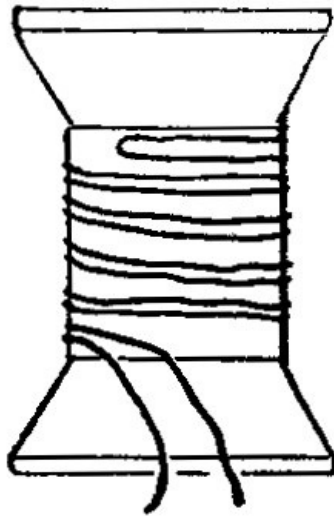

Fig. 105.
**230. Resistance Coils.** Fig. 105. For experiments in resistance (See text-book), a set of *standard* resistances is necessary. There are many ways in which the resistances may be made; you can arrange them upon a long board, upon a rack, or wind the wires around spools. We generally speak of resistance *coils*. The Ohm is taken as the standard. If you use *copper* wire, you may take 9 ft. 9 in. of No. 30 insulated wire as *your* standard Ohm. You could, of course, take any other length of any size as *your* standard, but it will be best to make your coils with a certain number of Ohms resistance. If you have no No. 30 wire, you may use 39 ft. 1 in. of No. 24 insulated copper wire for 1 Ohm. (See wire tables in text-book.)
231. To avoid the magnetic effect (See resistance coils, in text-book), the wire should be measured off, then doubled, before winding it upon the spools. The wire may be held to the spool with paraffine. Fig. 105 shows how the doubled wire looks on the spool, a few turns only being shown. Do not use any nails or other iron in connection with the coils proper.